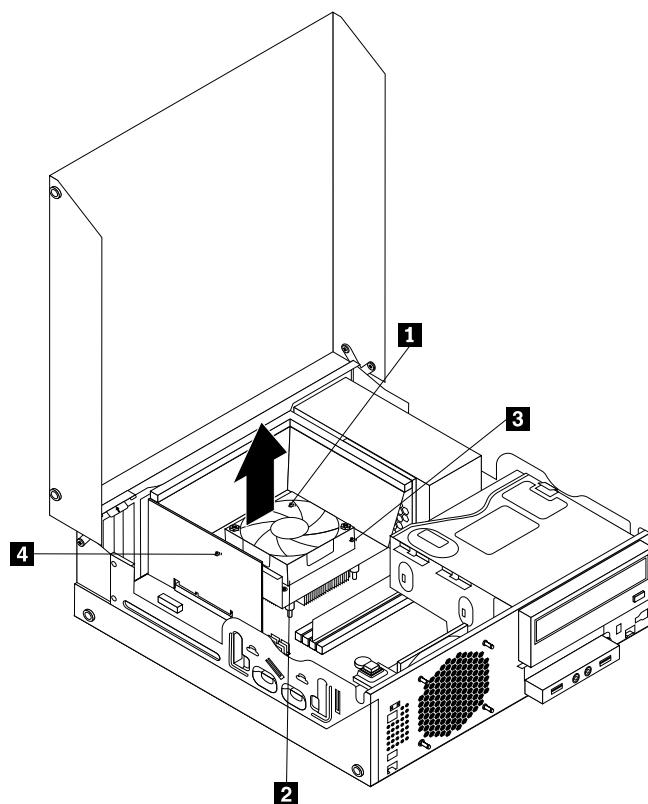

Figure 29. Screws that secure the heat sink and fan assembly
8. Follow this sequence to install the four screws to secure the new heat sink and fan assembly, as shown in Figure 29 “Screws that secure the heat sink and fan assembly” on page 34: